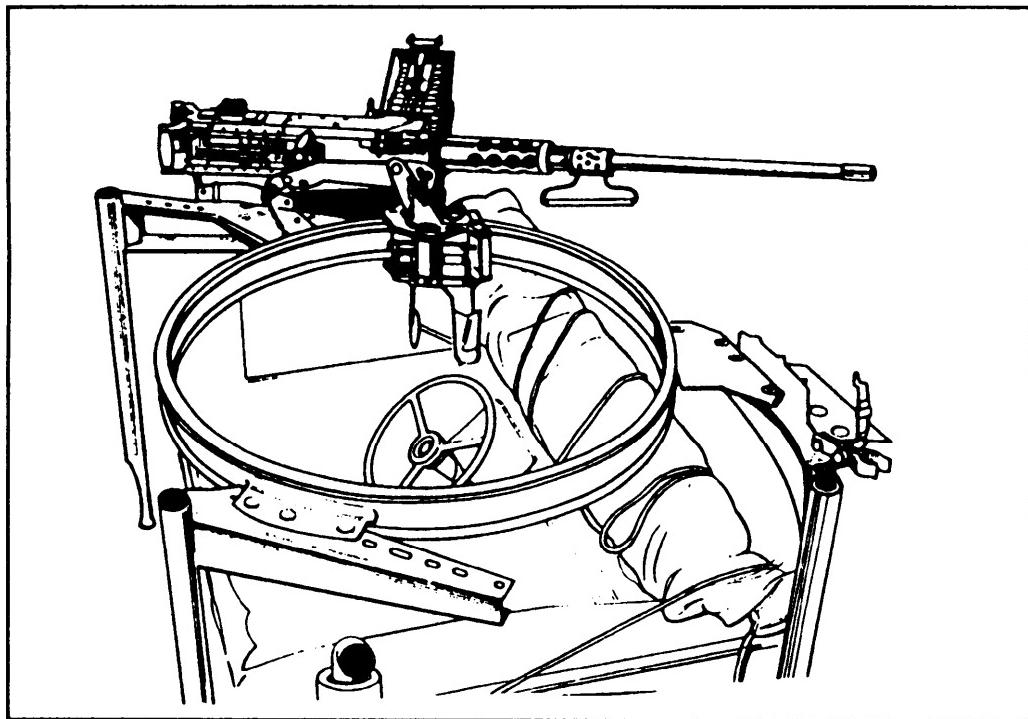
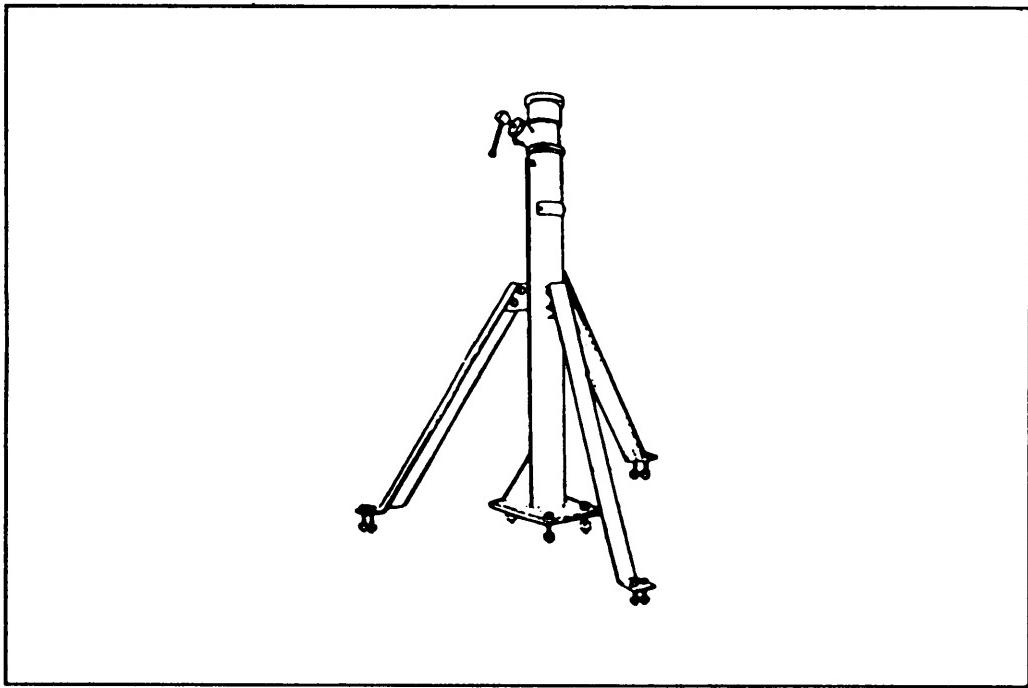

Figure 1-10. Truck mount, M36.
Figure 1-11. Pedestal truck mount, M31 C.
a. **Truck Mount, M36.** This mount consists of a cradle with a roller carriage on a circular track (Figure 1-10). The cradle can be rotated in the pindle sleeve of the carriage and can be adjusted for elevation. The carriage is guided on the track by rollers. The track is secured to the vehicle by supports.
(1) To move the gun in elevation on the M36 mount, remove the cradle locking pin and place it in the carriage handle; grasp the spade grips and elevate or depress as desired. The gun is also moved in traverse by pressure on the spade grips.
(2) To move the gun on the track, raise the brake handle lever until it is retained by the brake detent plungers. The cradle may then be moved on the track by applying pressure on the carriage handle.
b. **Pedestal Truck Mount, M31C.** Pedestal mounts are component assemblies designed for installation on the 1/4-ton vehicles to support a machine gun mount. They are composed of a pindle socket, pindle clamping screw column, and braces (Figure 1-11).